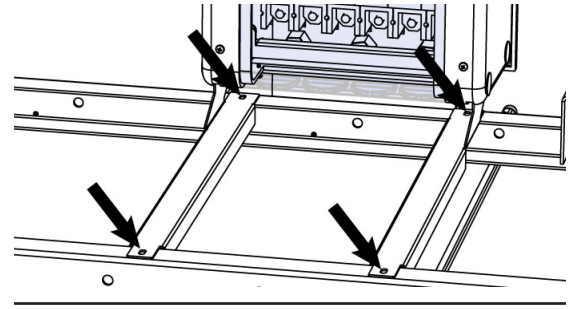

Figure 10. Mark bracket locations
Step 3. Once the DCX unit is in its final position, mark the DCX mounting bracket hole locations onto the battery stack frame top rails (see Figure 10).